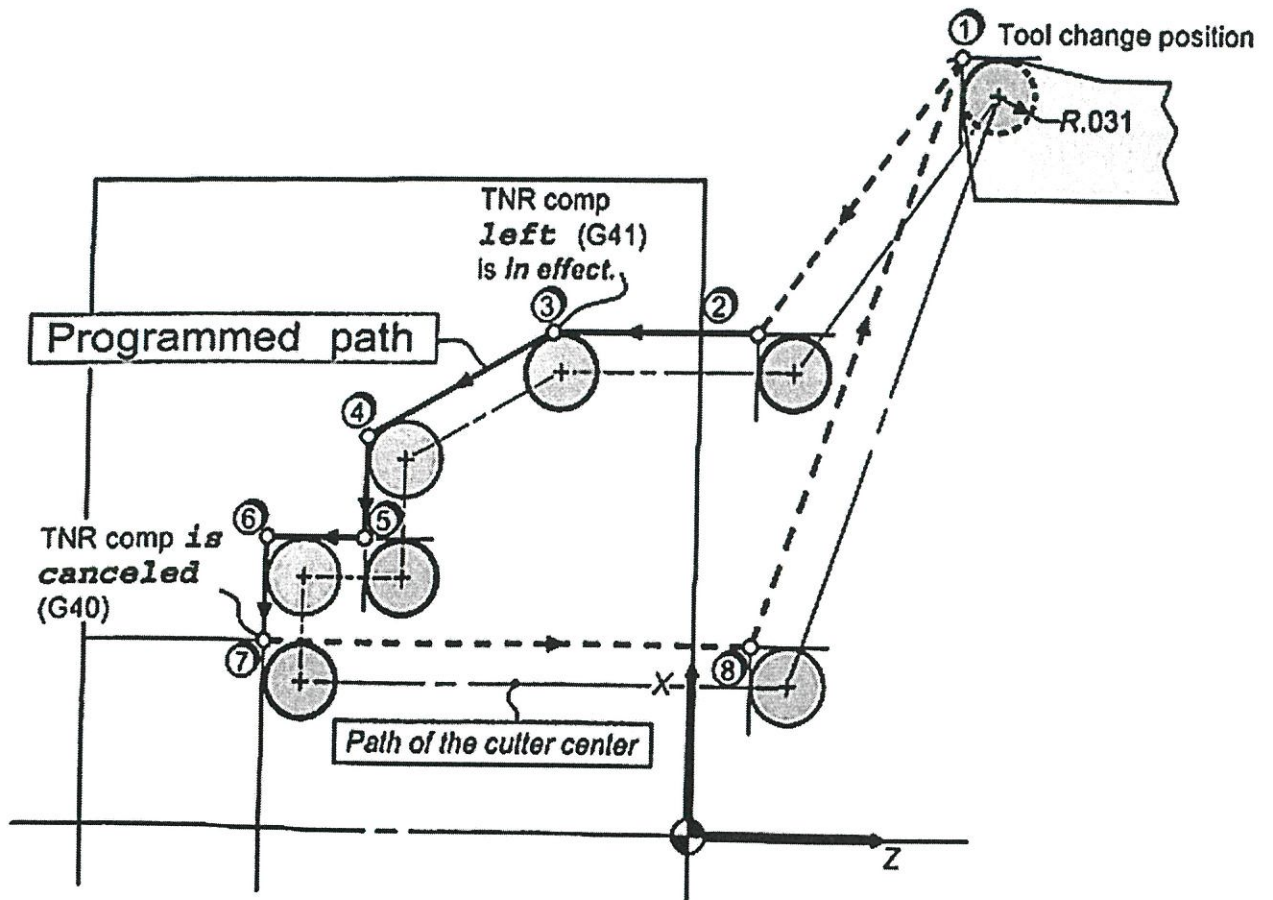

Figure Q4 (b)
- (c) (i) Identify **FOUR (4)** significant points of programming upgrading (optimization) Computer Numerical Control (CNC) program. (8 marks)
- (ii) Describe **FOUR (4)** basic terminologies used in programming of Computer Numerical Control (CNC) program. (4 marks)
- Q4** (a) Illustrate **TWO (2)** coordinate systems of the Computer Numerical Control (CNC) lathe machine with sketches and explanations. (9 marks)
- (b) Referring to **Figure Q4 (b)**, decide the suitable cutting methods, tools and parameters to produce the parts by using Computer Numerical Control (CNC) lathe machine. The part shown in the drawing was previously roughed. All dimensions unit are in inch (in). (6 marks)
- (c) Using the information provided in **Table Q4 (c)**, propose a Computer Numerical Control (CNC) lathe program to machine the parts as in the drawing in **Figure Q4 (b)**. Use tool nose radius (TNR) of 0.03. (10 marks)